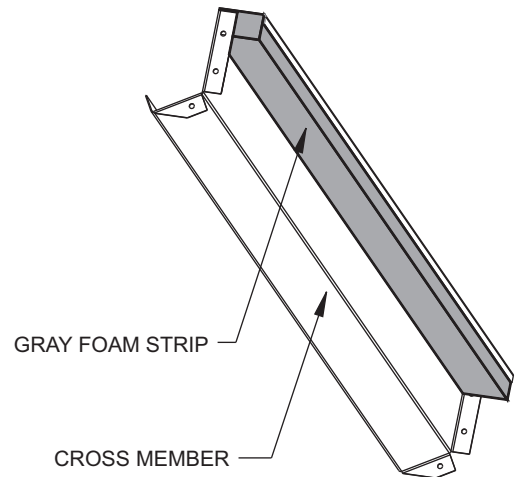

Fig. 16 — Adding Foam Strip to Cross Member
2. Add gray foam strip (provided) to cross members on bottom tray. See Fig. 16.